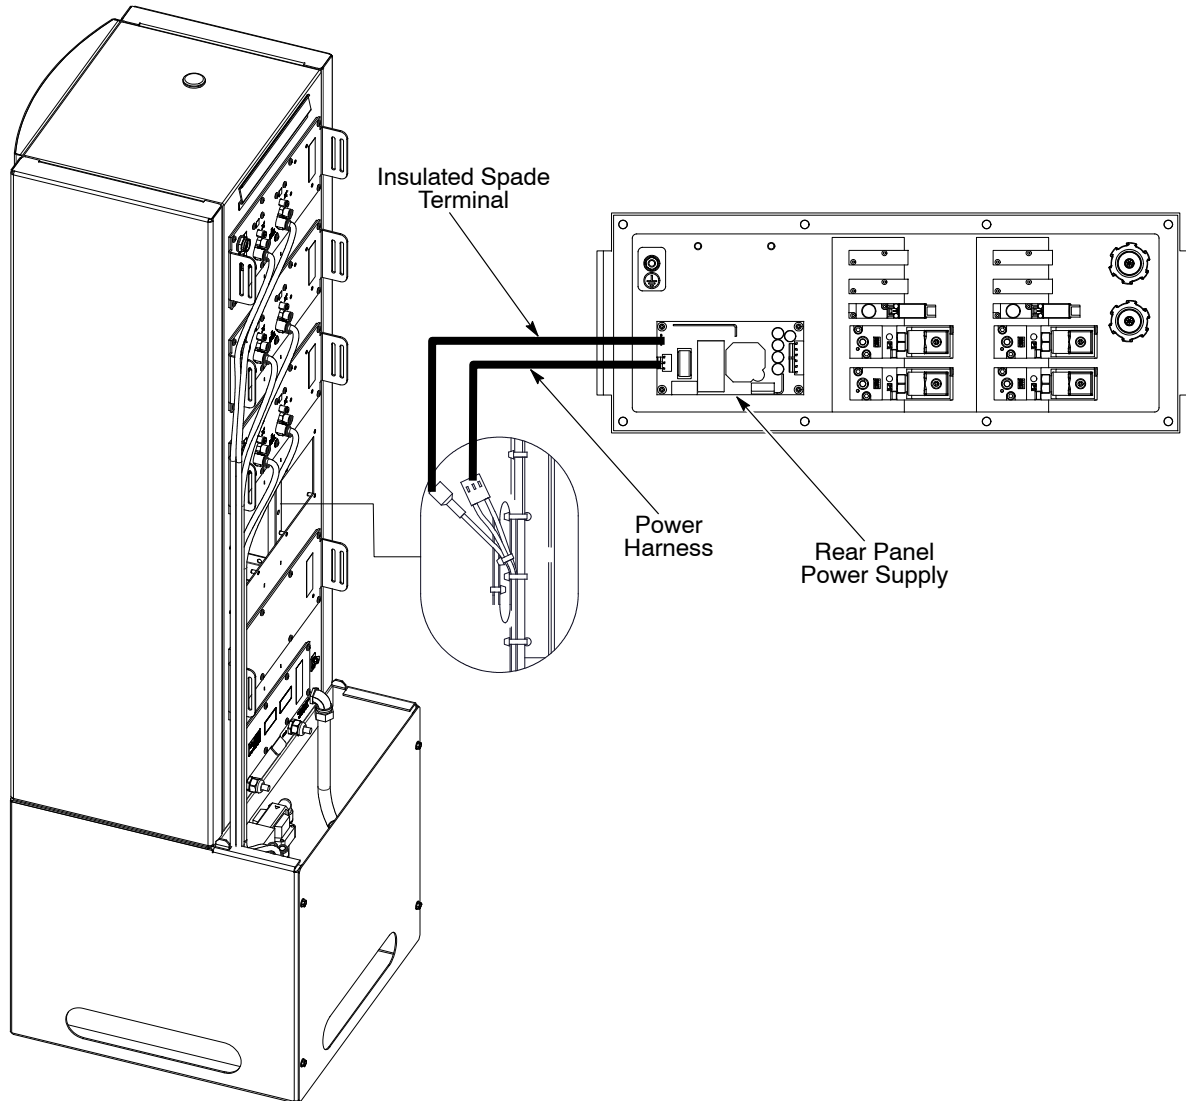

Figure 1 Rear View of Cabinet showing Power Harness Connection
2. See Figure 1. From the rear cabinet side, cut the cable tie securing the power harness with two connectors.